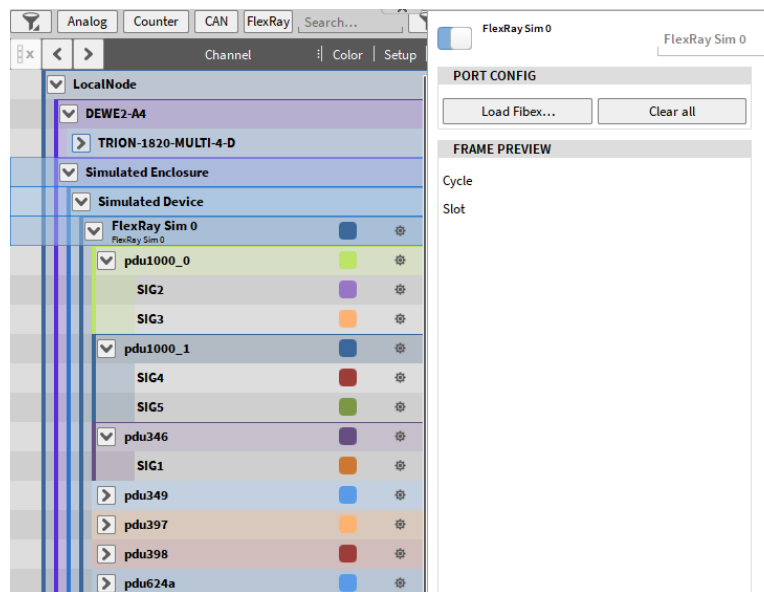

Fig. 4.61: FlexRay channel list in OXYGEN
- After loading the fibex-file, an arrow positioned left to the Channel name will appear. A click on the Arrow will expand the FlexRay channel list and show the individual FlexRay messages including their channels (see Fig. 4.61).